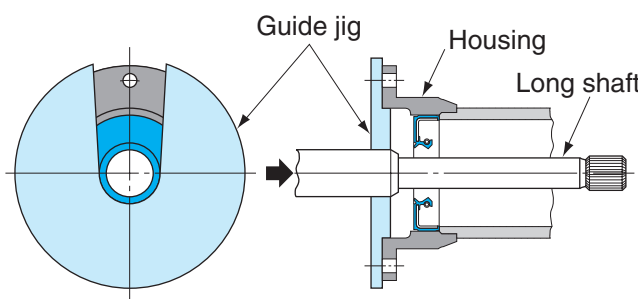

Fig. 1.7.9 Guide jig for inserting of long shaft into seal bore
8) When heavy housing with seal is assembled with shaft, or when long or heavy shaft is inserted into seal, seal damage should be avoided. Use the following guide jig to get centering (Figs. 1.7.9 and 1.7.10).